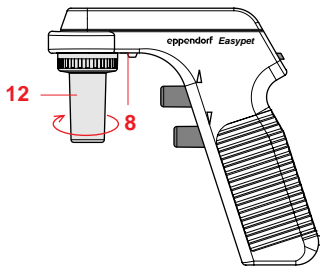

Fig. 5
- Hold down the release button (Fig. 5 – 8). Loosen the aspirating cone (Fig. 5 – 12) by turning it counterclockwise and pull down to remove.